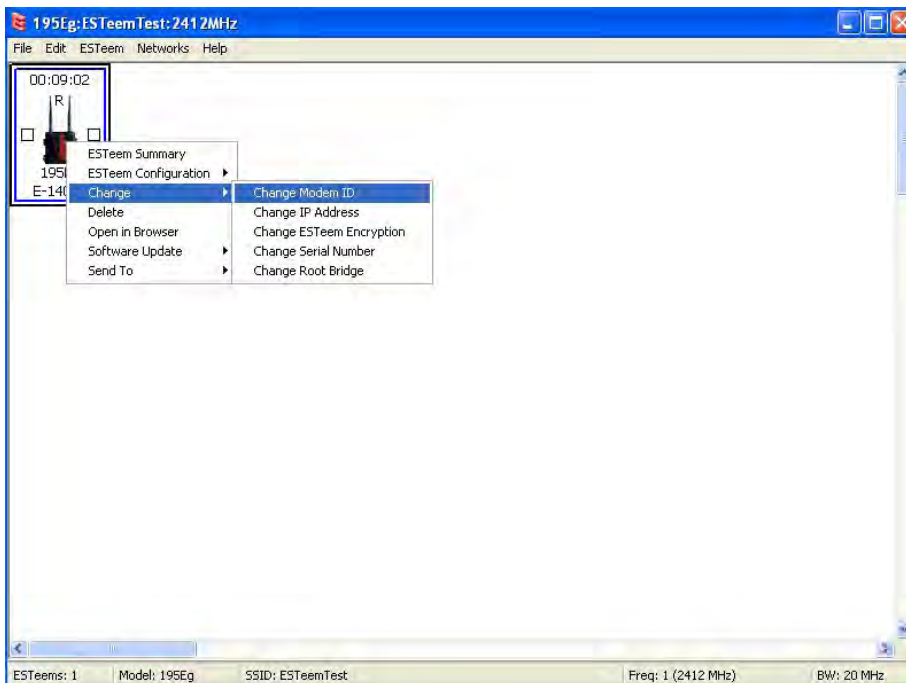

Figure 12: Change Modem ID
3. To change the name of the ESTEem 210 from the WLAN MAC address to “Main Office” (or any other location name) to match the example configuration, Right-Mouse click on the ESTEem icon and select Change>Change Modem ID (Figure 12). Enter “Main Office” in the pop-up window and select OK.